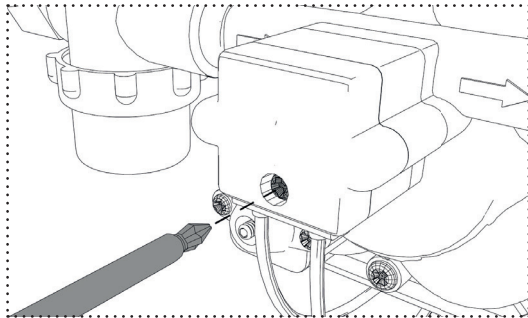

Fig. 12: Removing the pressure switch screw
**Notice:** Before you can adjust the pressure switch, you must first remove the plastic cover (Fig. 12). **then**